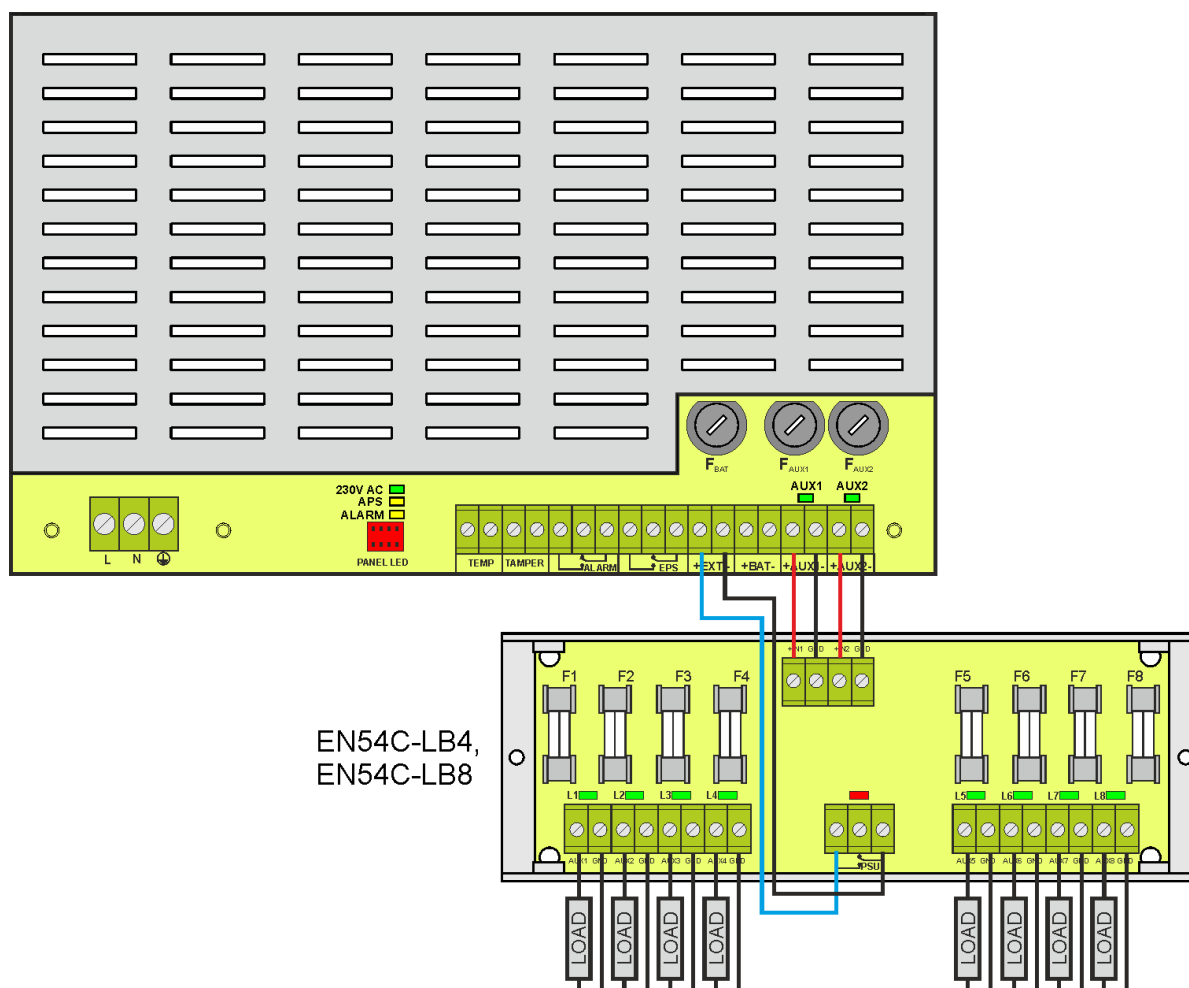

Fig. 9. Example of a connection with the fuse module EN54C-LB8.
The possibility of such protection is provided by the optional EN54C-LB4 (4-channel) or EN54C-LB8 (8-channel) fuse module. Figure 9 shows the connection of the power supply, the fuse module, and the receivers (LOAD).
- switching the PSU relay output into a no-voltage state (contacts as in Figure 9)